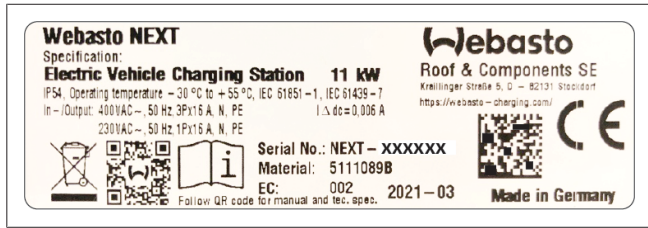

Fig. 1 Example type plate for Webasto Next (11 kW version)
3. Enter the details of your charger in the following format. This information can be found on the type plate on your charger, for example (cf. Fig. 1):